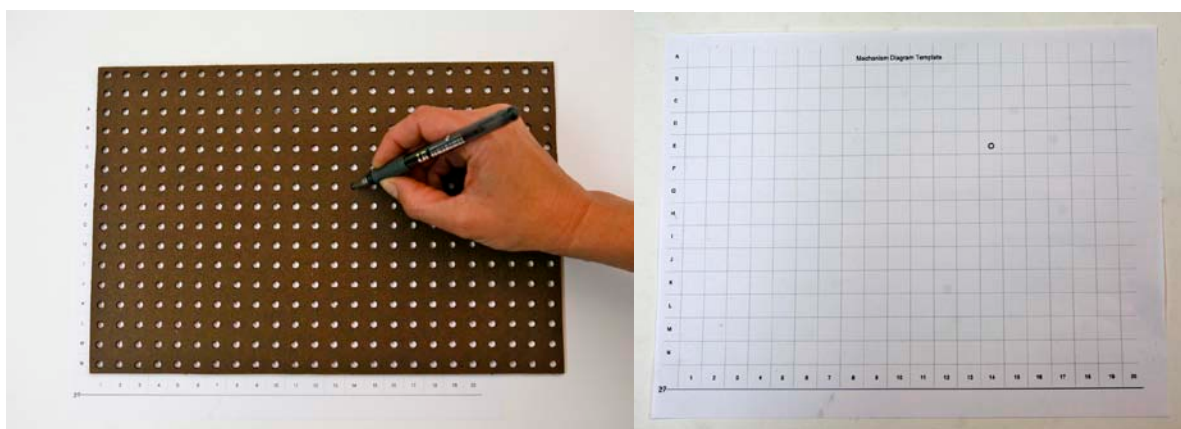

Figure 2: Using the Mechanism Diagram Template
- 4. Using the template and colored pencils to make better diagrams:** Provide each student with a Mechanism Diagram Template (at end of Procedure). Each small square on the diagram corresponds to a hole on the pegboard. If you place a pegboard base on top of the template, you can move it so the letters appear just to the left of the last column of holes on the left side, and the numbers are just below the bottom row of holes. Then every hole in the pegboard (except at the very top and extreme right) will have its own specific location on the template. See Figure 2.